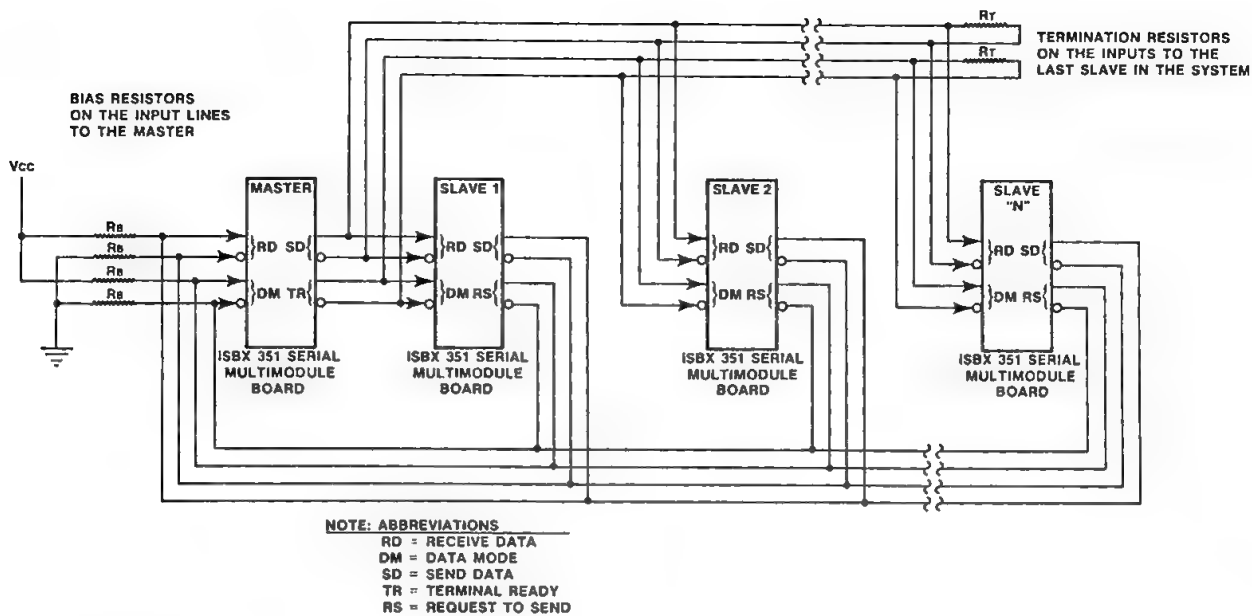
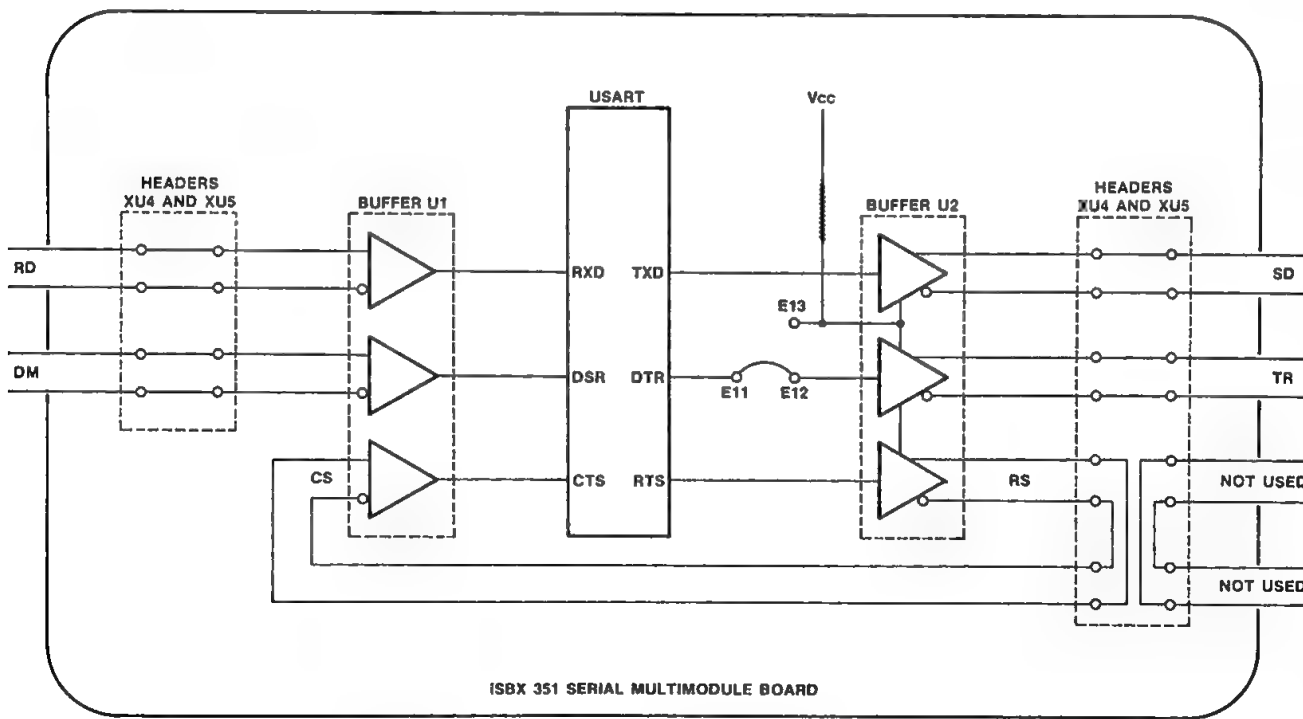
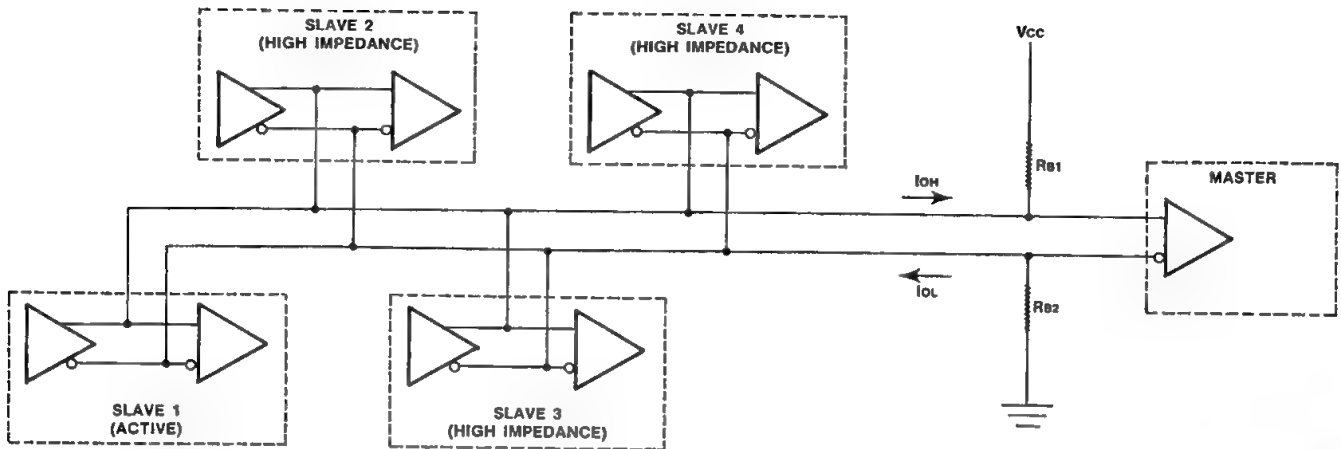
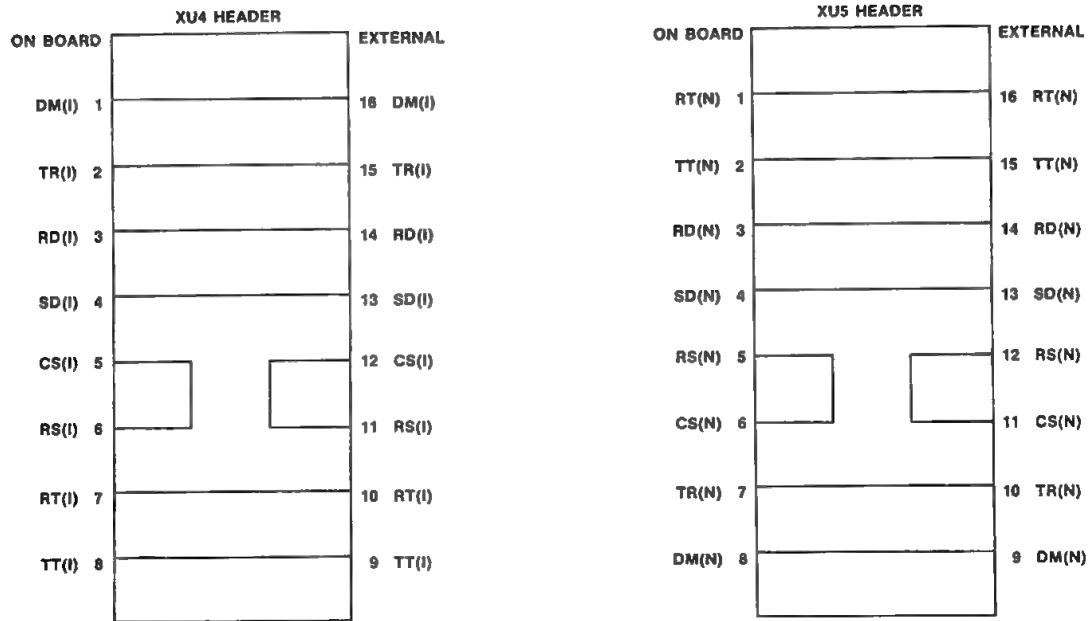

Figure A-1. Full-Duplex RS422 Multidrop Configuration Block Diagram
Figure A-2. Master Configuration Detail
Figure A-4. System Example - Bias Resistance
Figure A-5. Master Header Wiring Diagram
Each of these considerations will be discussed in detail in the following text. Figure A-1 shows a block diagram of the configuration that will be used as an example for explanation purposes. Each of the blocks labeled "slave" and "master" is shown in greater detail in Figures A-2 and A-3. The bias and termination resistors required for the slave and master devices are shown in greater detail in Figures A-4 and A-7.
Figure A-1 shows a typical RS422 full-duplex multidrop configuration that assumes only one master station is attached to the system and always drives the output lines. Bear in mind that a full-duplex system allows all slaves to listen to the data line, and to perform some task in parallel with a task performed by another slave, however, only the selected slave may transmit to the master. In this example, there may be any number (n) of slave stations attached, however, the slaves are under strict program control to output only on command from the master.
Figures A-2 and A-3 shows the jumper configuration required in the master and slave to configure for an RS422 multidrop application. Factory configuration of the MULTIMODULE board includes jumpers on the master from E11 to E12. By removing it and installing one from E11 to E13, the user can configure a slave MULTIMODULE board so that the DTR (Data Terminal Ready) line from the slave USART controls the output buffer (U2).
In this example, each MULTIMODULE board contains two header blocks, in locations XU4 and XU5, that must be wired properly. Figures A-5 and A-6 show the header wiring required for the master and slave units to perform the functions shown in Figure A-1. More information on header block wiring may be found in Chapter 2.
As shown in Figure A-1, a simple cross-over is performed in the external wiring with the Receive Data (RD) input to the master and the Send Data (SD) output from the slave. Another is performed between the Data Mode (DM) input to the master and to Request to Send (RS) output from the slave.
In an RS422 multidrop application, it is strongly recommended that the open or floating data lines in the system be biased by means of user supplied bias resistors, as shown in Figure A-1. There is no on-board provision for the bias resistors on the iSBX board. Without these resistors, the state of a floating line cannot be guaranteed.
Figure A-4 shows more details of the example presented in Figure A-1. The procedure for calculating a bias resistance value for the given example is listed in the following paragraphs. This part of the calculation presents the best-case current loss calculation; the worst-case current loss part of the calculation is presented in the following section.
With an RS422 multidrop application, it is strongly recommended that the inputs to the slaves be terminated as shown in Figure A-1 to reduce the line reflection. The exact value of the termination resistors can be calculated only on an individual application basis since the contributing parameters will vary from one application to another. The following text shows an example of how to calculate termination resistance for a full-duplex RS422 multidrop application.
To calculate the size of the termination resistors (R_T) for the example in Figure A-1, proceed as follows: